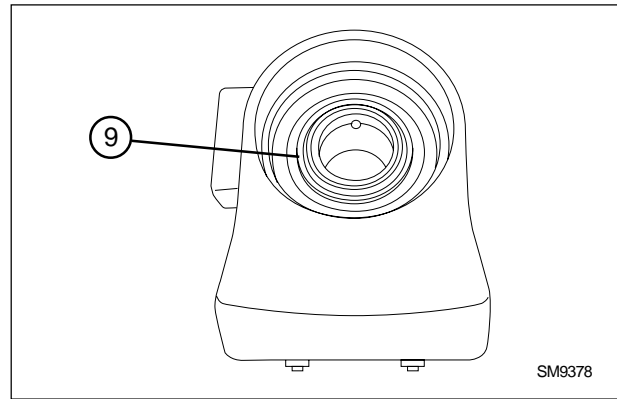
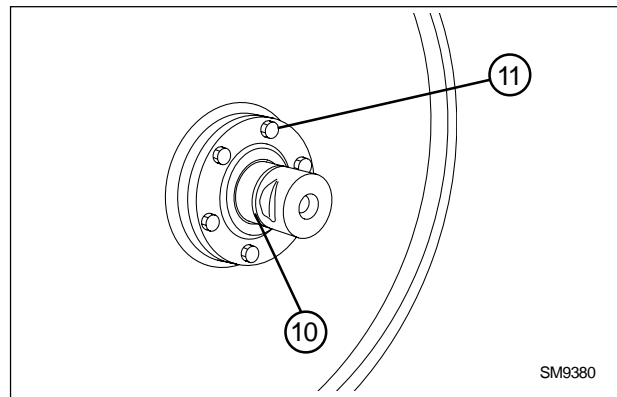
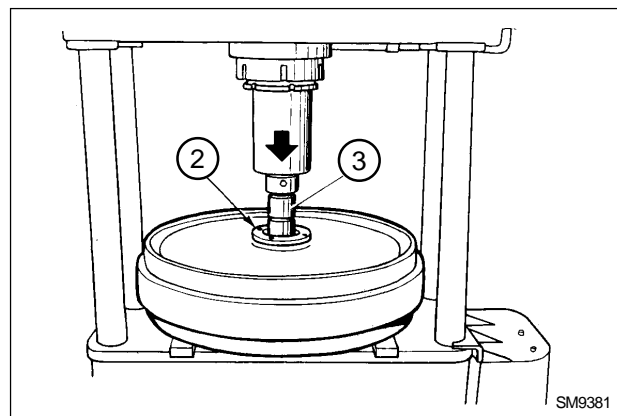

Fig. 24
Fig.26
Fig.27
4. Remove the front seals (9 fig. 24) and keep the matching to avoid mixing them, when reassembling. Remove O-Rings (10). Remove screws (11 fig. 26) securing the bush housings. Remove bush housings (2 fig. 27) assemblies forcing the idler shaft end (3) with a hydraulic press.